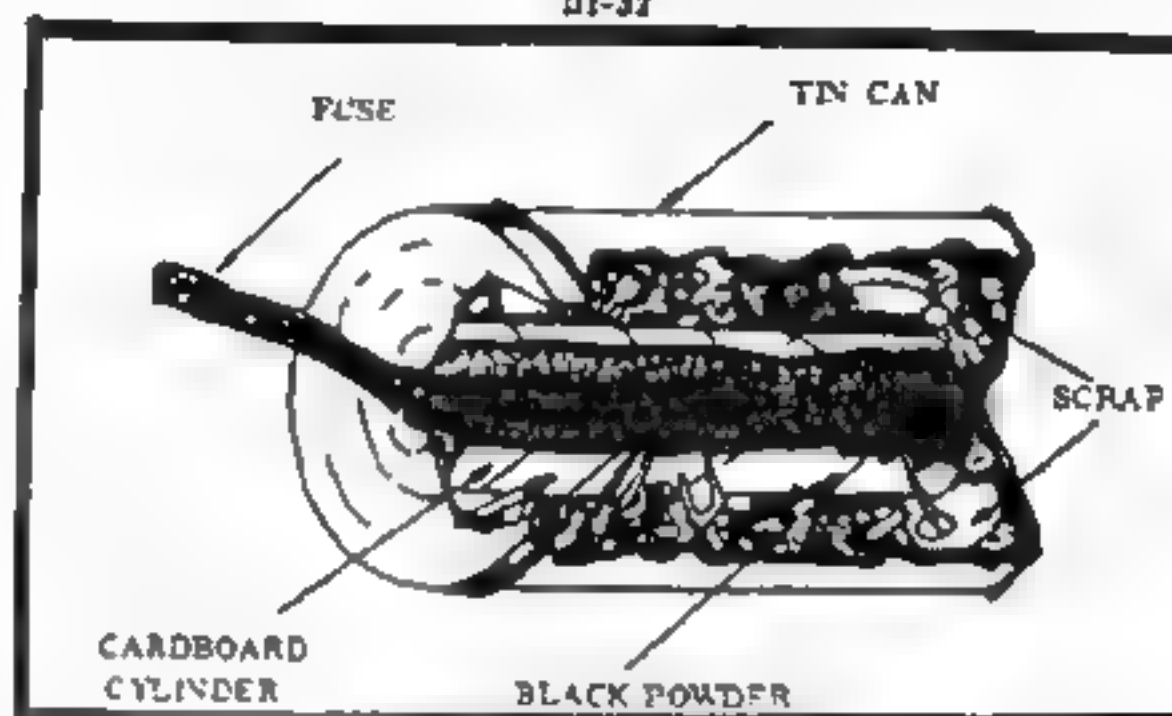

Figure 23. Tin Can Grenade
3. Insert the cylinder into the can as shown in Figure 23 and surround with bolts, nuts, metal scrap and/or stones. Close the can with a lid which has a hole in the center for the fuse to pass through. If the container used has no lid, it may be closed with a piece of wood, metal or cardboard of the required size taped in place.